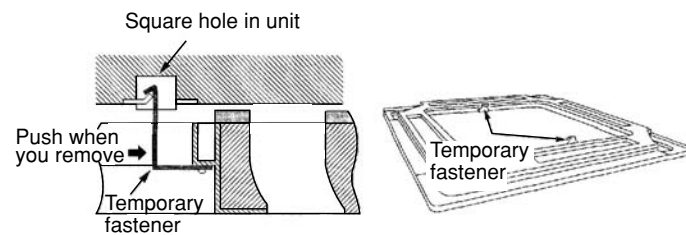
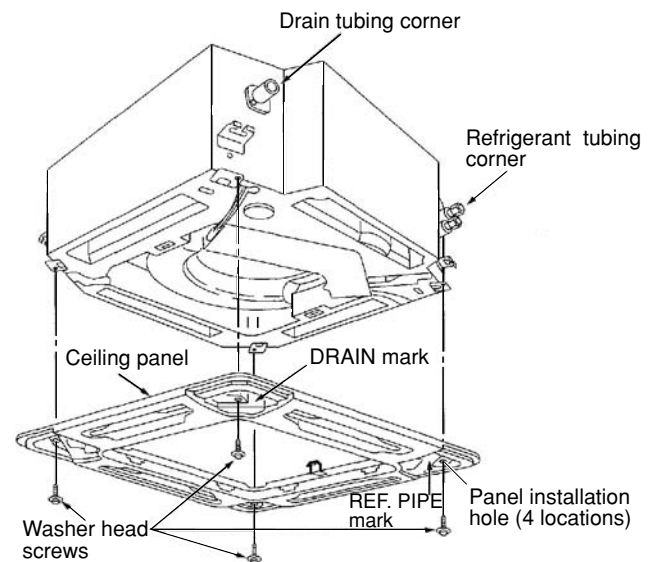
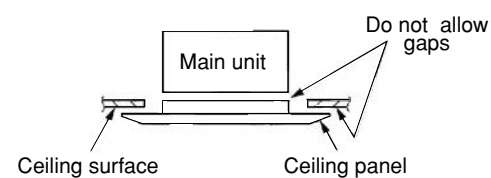

Fig. 9-7
Fig. 9-8
Fig. 9-9
- (1) Insert the temporary fasteners (stainless steel) on the inside of the ceiling panel into the square holes on the unit to temporarily fasten the ceiling panel in place. (Fig. 9-7)
- To remove the ceiling panel, support the ceiling panel while pressing the temporary fasteners toward the outside. (Fig. 9-7)
- (2) Align the panel installation holes and the unit screw holes.
- (3) Tighten the supplied washer head screws at the 4 panel installation locations so that the panel is attached tightly to the unit. (Fig. 9-8)
- (4) Check that the panel is attached tightly to the ceiling.
- At this time, make sure that there are no gaps between the unit and the ceiling panel, or between the ceiling panel and the ceiling surface. (Fig. 9-9)